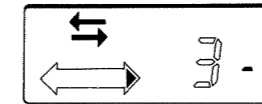

Fig. 1-3j
- While the "-" sign is flashing you can store the track number in the memory with key ③③ "PROGRAM". When this operation has been completed, a "P" appears after the track number (Fig. 1-3j).
- Whenever you wish, you can have the programmed track number appear on the display by pressing key ③③ "PROGRAM".